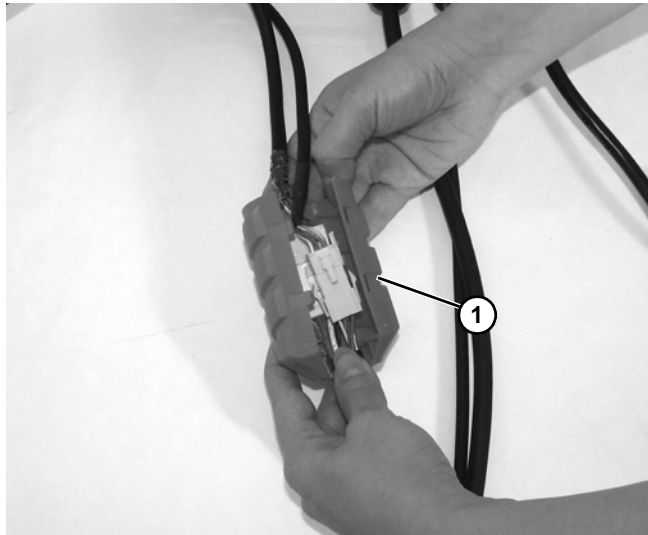

Figure 31
3. Open inner cord cover (Figure 31, item 1).